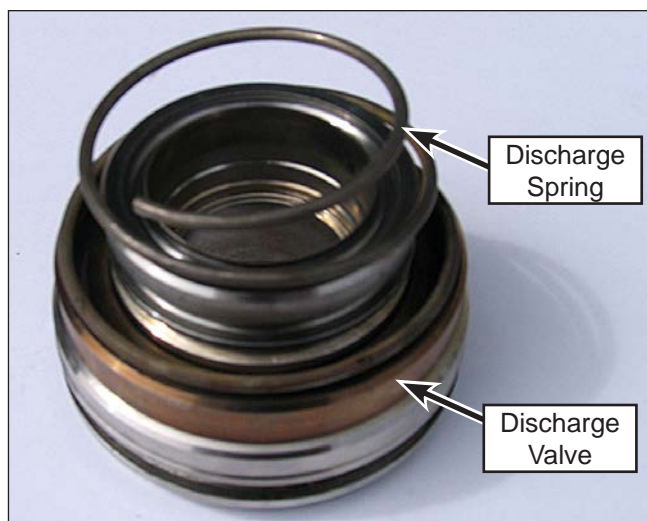

Figure 78: Discharge Installation.
1. Install the discharge valve onto the valve body. The shiny mating surface faces the holes on the valve body. Place the discharge spring into position on the valve (Figure 78).